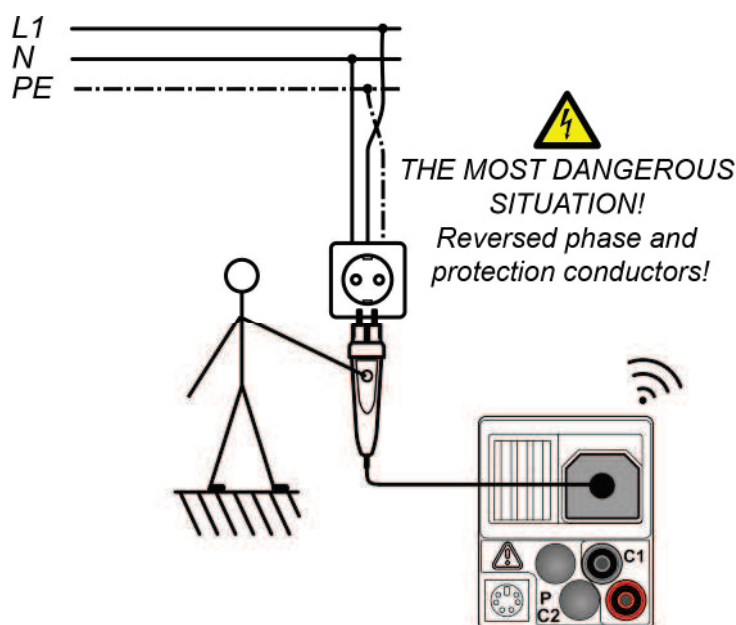

Figure 5.36: Reversed L and PE conductors – Phase voltage at the PE conductor is detected by touching the "TEST" key of the "Commander" test plug (optional).
- ❑ Connect the test cables to the test object (see figure 5.36 and 5.37).